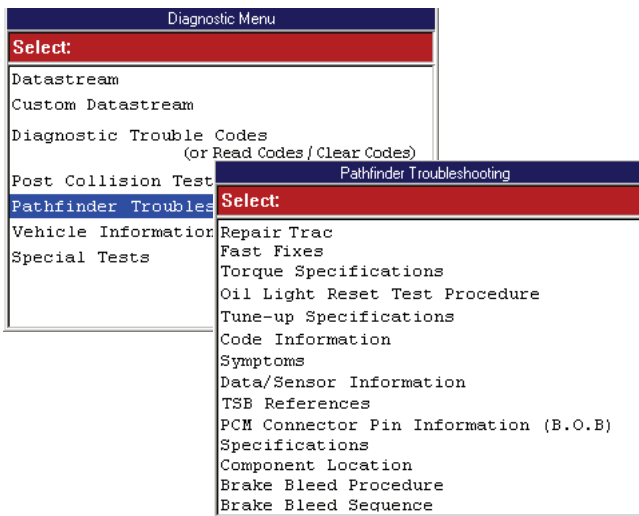

Figure 10.1: Diagnostic Menu Screen and Pathfinder Troubleshooting Screen
- 1 Follow the steps in Basic Procedure to display the Pathfinder Troubleshooting screen (see Figure 10.1).
- 1 Follow the steps in Basic Procedure on page 55 to display the Pathfinder Troubleshooting screen (see Figure 10.1).